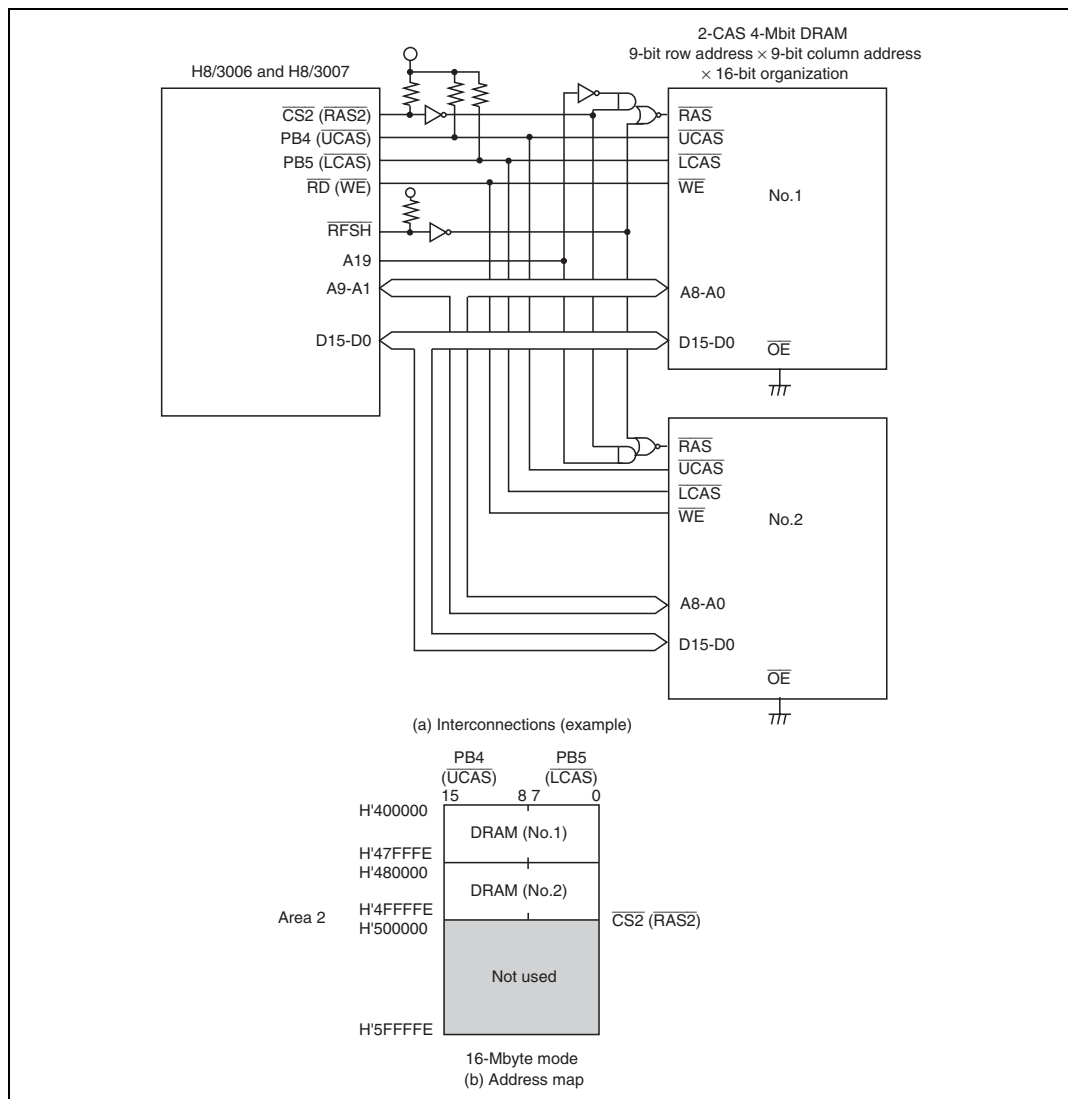

Figure 6.31 Interconnections and Address Map for 2-CAS 4-Mbit DRAMs with \times 16-Bit Organization
- Figure 6.31 shows typical interconnections when using two 4-Mbit DRAMs, and the corresponding address map. The DRAMs used in this example are of the 9-bit row address \times 9-bit column address type. In this example, upper address decoding allows multiple DRAMs to be connected to a single area. The RFSH pin is used in this case, since both DRAMs must be refreshed simultaneously. However, note that RAS down mode cannot be used in this interconnection example.